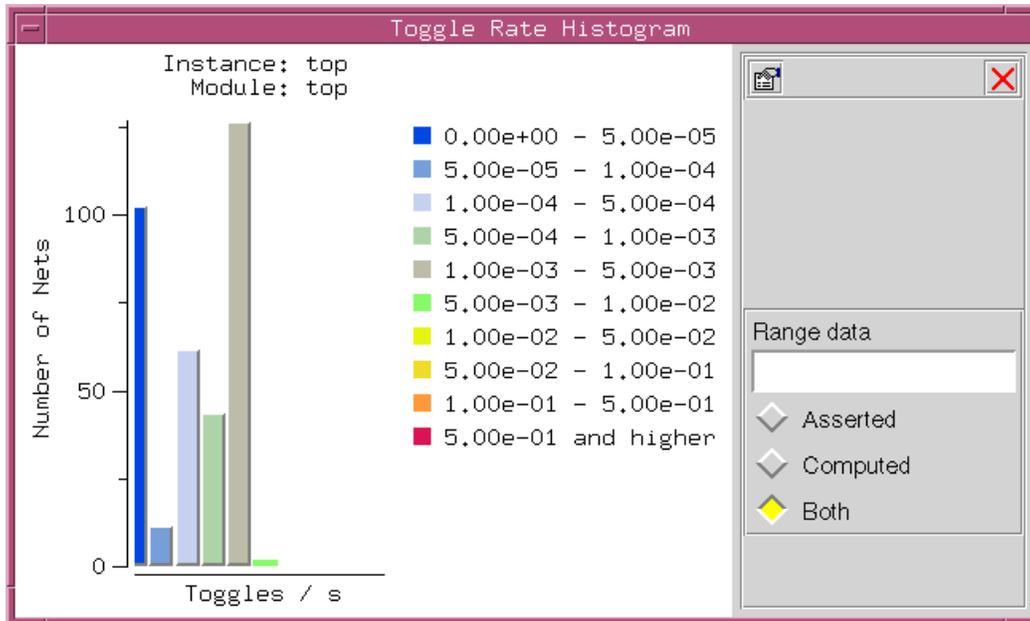

Figure 4-7 Toggle Rate Histogram
3. The probability histogram opens. See Figure 4-7 on page 75.